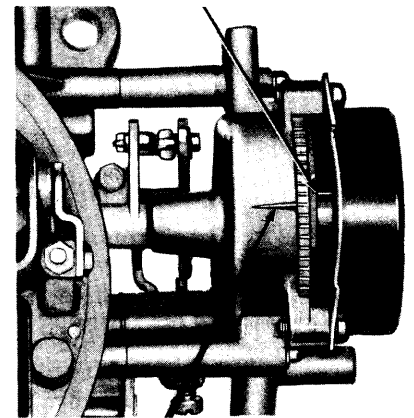

FIG. 8—Automatic Choke Thermostatic Spring Housing Adjustment
2. Loosen the thermostatic spring housing clamp retaining screws. Set the spring housing to the specified (Part 10-6) index mark (Fig. 8) and tighten the clamp retaining screws.